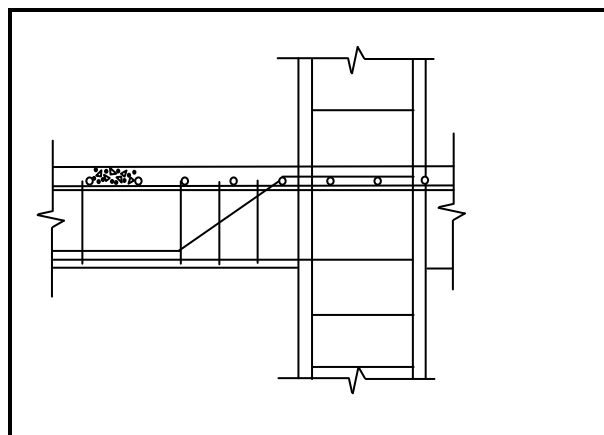

FIGURE 2.3
2.3 FIGURE 2.3 below shows an incomplete sectional view of a reinforced beam and column.